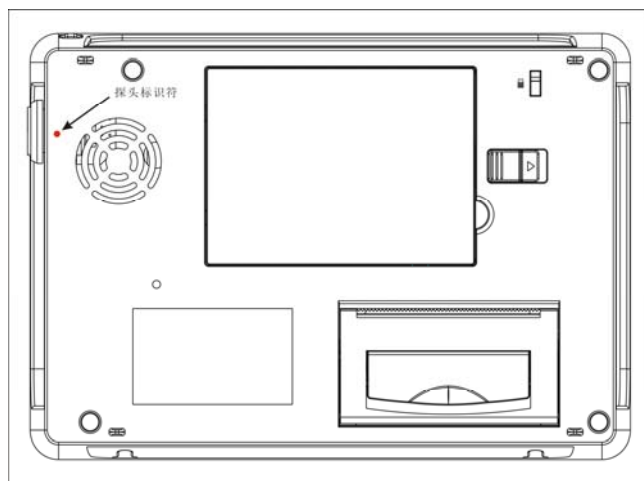

Figure 4-1 PadScan DS3 Probe and Main unit Connection Diagram
- Connect the probe to the main unit. Align the red dot on the probe with the red dot on the back of the main unit (Identifier of Probe), and insert the probe into probe socket on right side of the main unit as figure 4-1.
Lock slot: any notebook security lock is applied to this lock slot as figure 4-1.